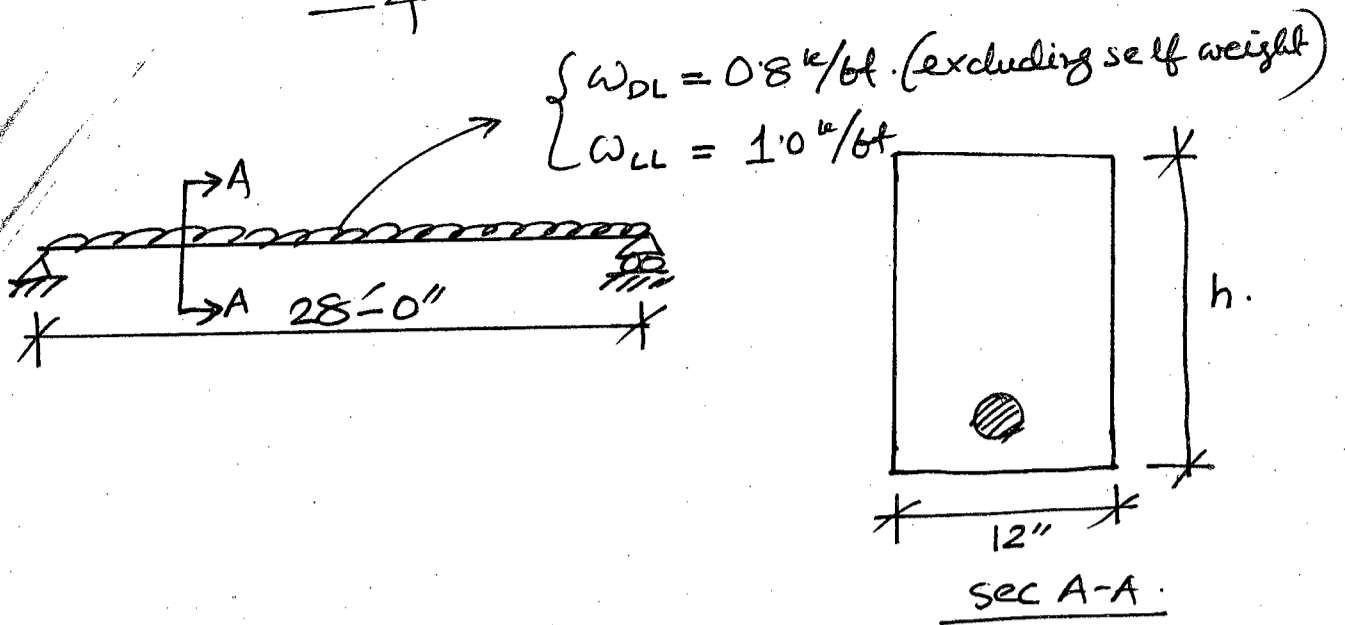

Figure 1
1. (a) Discuss the behavior of reinforced concrete rectangular beam in flexure under increasing load by drawing neat sketches for strain and stress distribution of uncracked, cracked and ultimate condition. (9)
- (b) What are the sources of uncertainties in analysis, design and construction of RC structures? Discuss how safety is ensured against these uncertainties in design. (7)
- (i) Cracking moment. (9)
- (ii) Stresses in concrete and steel caused by a bending moment  $M = 90$  kip-ft. (10)
2. (a) A rectangular beam carries a service live load of 1.0 kip/ft and an unfactored superimposed dead load of 0.8 kip/ft in addition to self weight of the beam on a 28 ft simple span as shown in Figure 1. Given,  $f'_c = 3$  ksi;  $f_y = 40$  ksi;  $n = 9$ , width of the beam = 12 inch. Design the beam for flexure as a singly reinforced beam. (21)
- (b) Why is cover over rebar important? What are the recommended values of 'cover' as per ACI code? (7)
- (c) Explain the meaning of 'over-reinforced' and 'under reinforced' beam. (7)
3. (a) What is the purpose of providing minimum reinforcement of flexural steel in a beam? Write ACI provisions for minimum reinforcement ratio. (8)
- (b) What is the justification of selecting strength reduction factor  $\phi$  based on net tensile strain,  $\epsilon_t$ ? Discuss the variation of  $\phi$  with  $\epsilon_t$  as given in ACI code. (7)
- (c) A beam section is limited to width  $b = 12''$  and total depth  $h = 24$  in. Calculate the required reinforcement if the beam has to resist a factored moment  $M_u = 375$  kip-ft. Assume two layer of tensile reinforcement with  $d = 20$  in and  $d_t = 21.5$  in. Also assume  $d' = 2.5$  in. if compression steel is required. Given  $f'_c = 3$  ksi and  $f_y = 50$  ksi. (20)
4. (a) What are the code requirements for determination of effective width of a T beam? (5)
- (b) How the location of neutral axis indicates whether the beam should be analyzed considering T-beam or rectangular beam. (5)